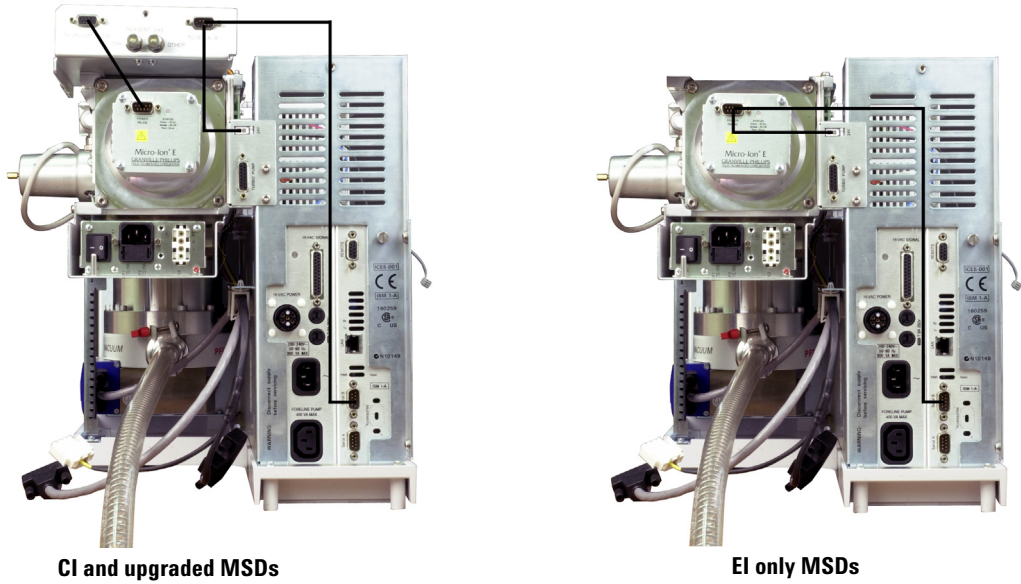

Figure 5 Micro-Ion vacuum gauge cables
- 2 Connect the gauge cables as shown in Figure 5.